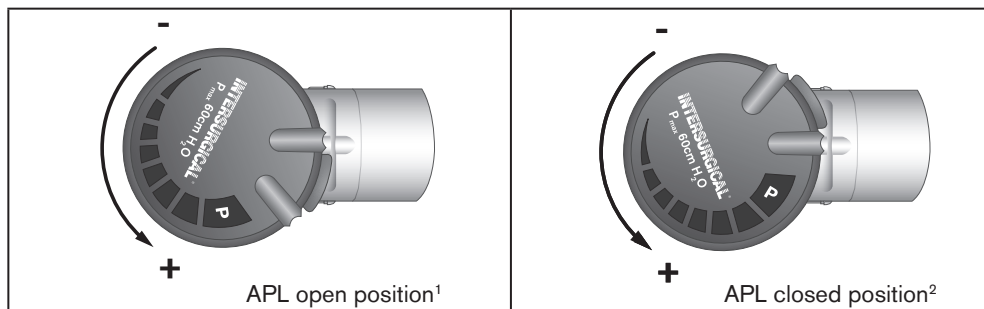

Fig. 3 / Figure 3. / Abbildung 3. / Figura 3. / Figur 3. / Kuva 3. / Εικόνα 3. / 3 pav. / Rysunek 3. / Рис. 3. /
9. Adjust the APL valve in accordance with patient's required respiratory function. Please refer to diagram below for further guidance. (Fig. 3)